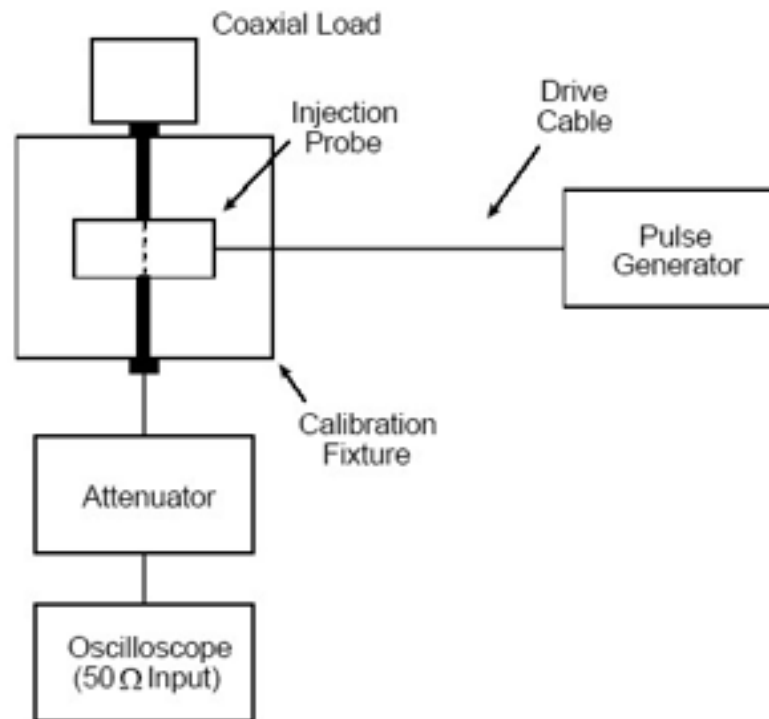

Figure 5.4-2: CS115 Calibration Setup
1. The test equipment was setup in accordance with Figure 5.4-2.